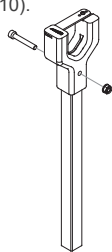

fig. 8
- Attach seatpost holder to stanchion extender. Screw in bolt, tighten using Allen key and wrench in unison (fig. 8).